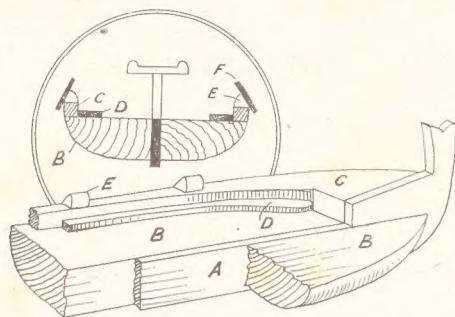

Fig. 2—A section and cut-away view of hull
Both pieces are now to be shaped with rasp, file and glasspaper to the section shown on the pattern sheet and in the two diagrams given in Fig. 2. The larger of these two diagrams gives in section form the various pieces as they are glued up and shaped to form the hull of the ship. The circled diagram in Fig. 2 gives a midship cross section of the hull, with the upper deck pieces attached and the true position of the shields and their fixing blocks.
cut. The remainder of the circles completing each shield will afterwards be drawn in or slightly recessed with the carving tool. The shields are held to the sides of the ships by the shaped blocks (E), cut $\frac{3}{8}$ in. long from $\frac{1}{8}$ in. square blocks rounded at one angle, as seen in Fig. 2.